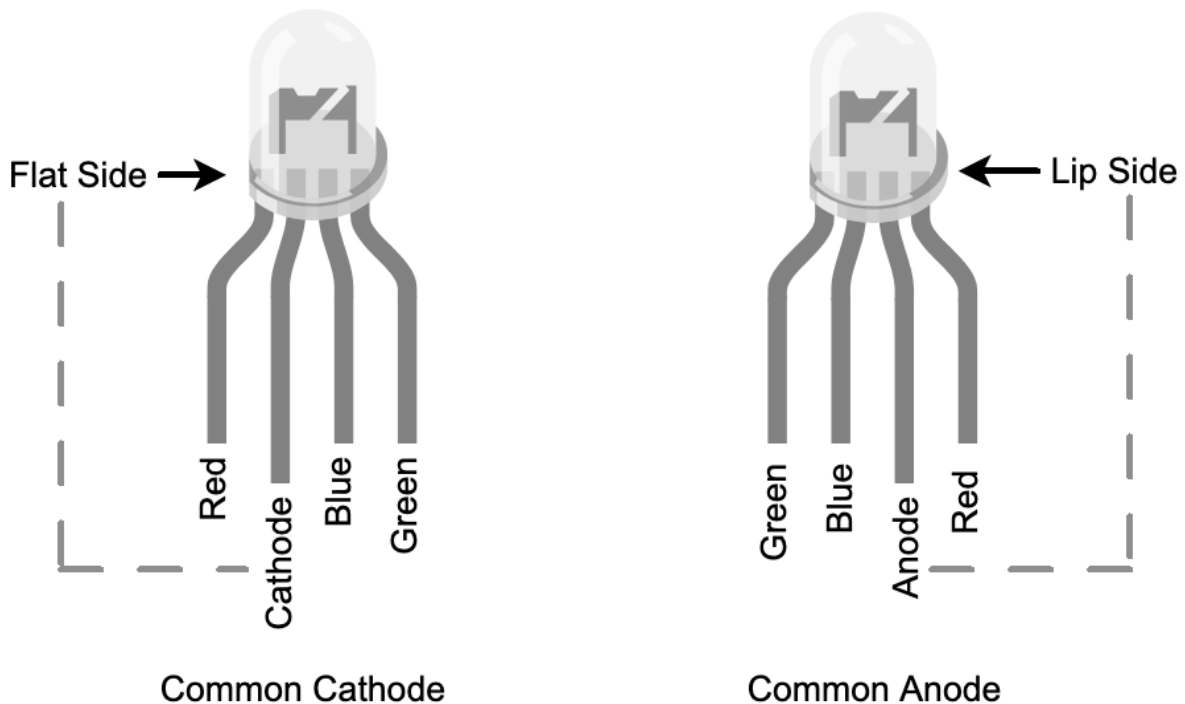
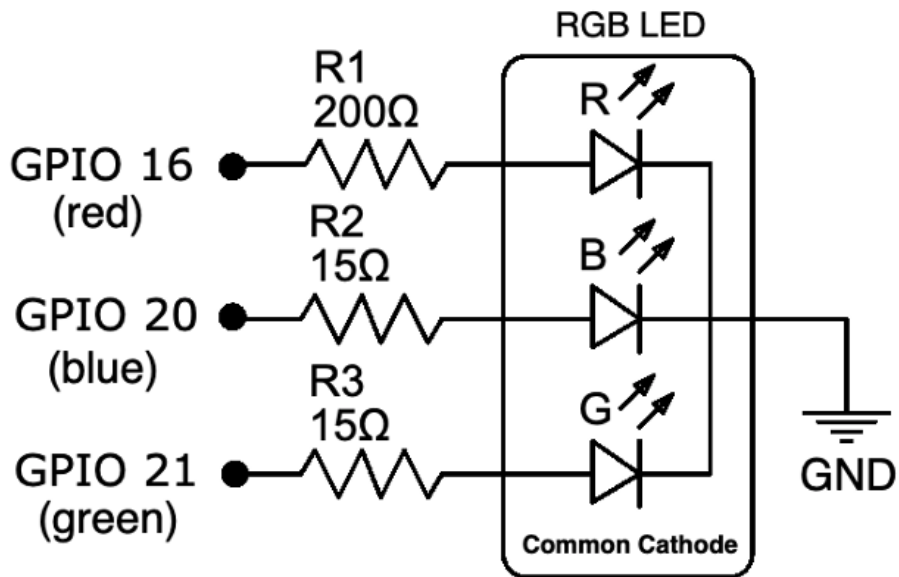

Figure 8.1 – RGB LED varieties
Figure 8.2 – Common cathode RGB LED schematic
An RGB LED is three single-color LEDs (red, green, and blue) in a single package, as illustrated in *Figure 8.1*:
We will start by building the circuit as shown in *Figure 8.2* on our breadboard:
To use a **common anode** RGB LED, it needs to be wired differently than shown in *Figure 8.2*—the common anode leg must go to the +3.3V pin on your Raspberry Pi, while the GPIO connections remain the same. The other change is in code where we need to invert the PWM signals—you will find a file called `rgbled_common_anode.py` in the `chapter08` folder with the differences commented.
2. If your first three colors are not red, green, and then blue, your RGB LED may have its legs in a different order than the RGB LED's pictured in *Figure 8.1* and the circuit in *Figure 8.2*. What you will need to do is change the GPIO pin numbering in the code (see the following code snippets) and re-run the code until the color order is correct.